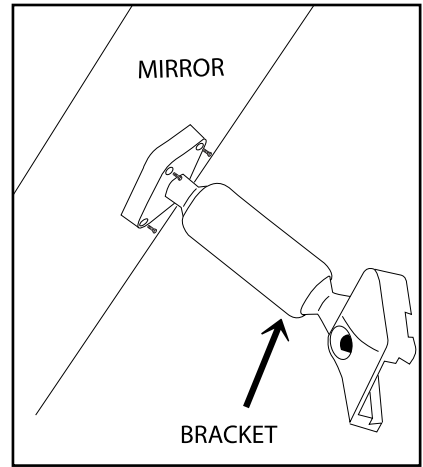

Figure. 1
1. Attach windshield mounting bracket to the back of rearview monitor. Be certain that the monitor is in the upright position when attaching the mounting bracket. (Figure 1)